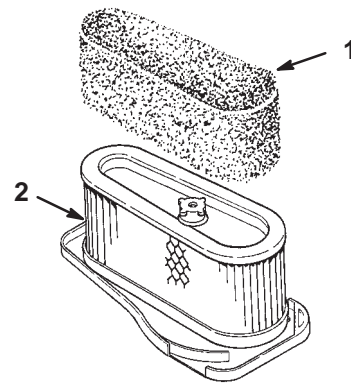

Figure 27
3. Carefully slide the foam element off of the paper element (Fig. 27).
- Carefully slide the foam element onto the paper air cleaner element (Fig. 27).